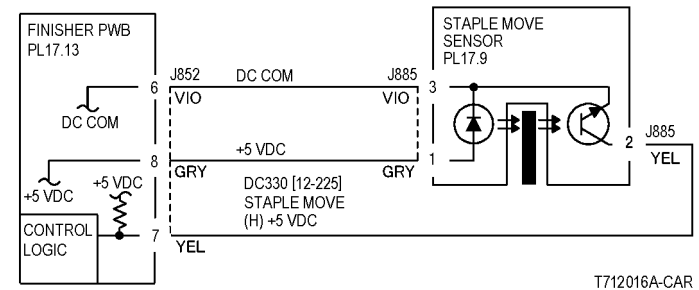

Figure 2 12-241 RAP Circuit Diagram - Staple Move Sensor
- Ensure that the connectors shown in the circuit diagrams (Figure 2, Figure 3) are securely connected and that the wires are not damaged.